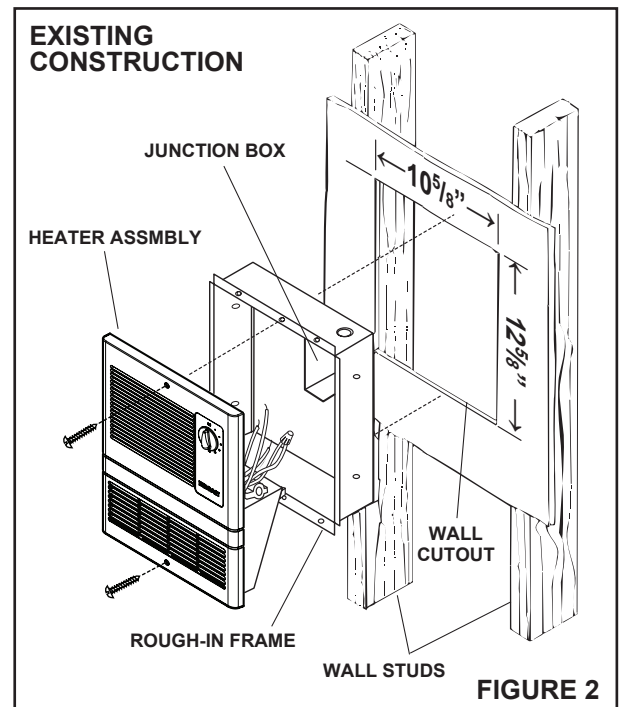

FIGURE 2
2. **Refer to Figure 2.** Make wall cutout next to a wall stud. Cutout size: 12⁵/₈" high x 10⁵/₈" wide with frame.)